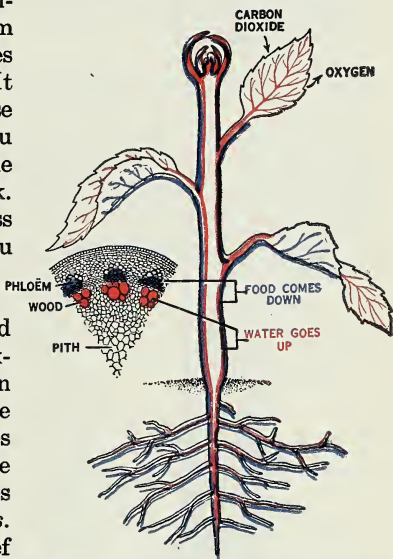

Fig. 353. This picture illustrates the passageways of water upward and sap downward through the plant.
**A stem's work.** Green leaves make the food supply for the world and stems make the wood supply. Primarily wood serves the plant. It is evident that it holds the stem erect so that the leaves are up in the sunlight. It has another function (use to the plant) that you may see by standing some twigs overnight in red ink. By cutting slices across the stem next day, you can see that the red ink has passed up the stem through the wood. Wood carries up sap. If you examine the cut end of an oak branch, you will see small holes like pinholes in the wood. These are the cut ends of fine tubes called *ducts* or *vessels*. The vessels are the chief upward channel through which the sap flows. The downward flow is through tubes (sieve tubes) in a part of the inner bark (the *phloëm* or *bast*) (Fig. 353).